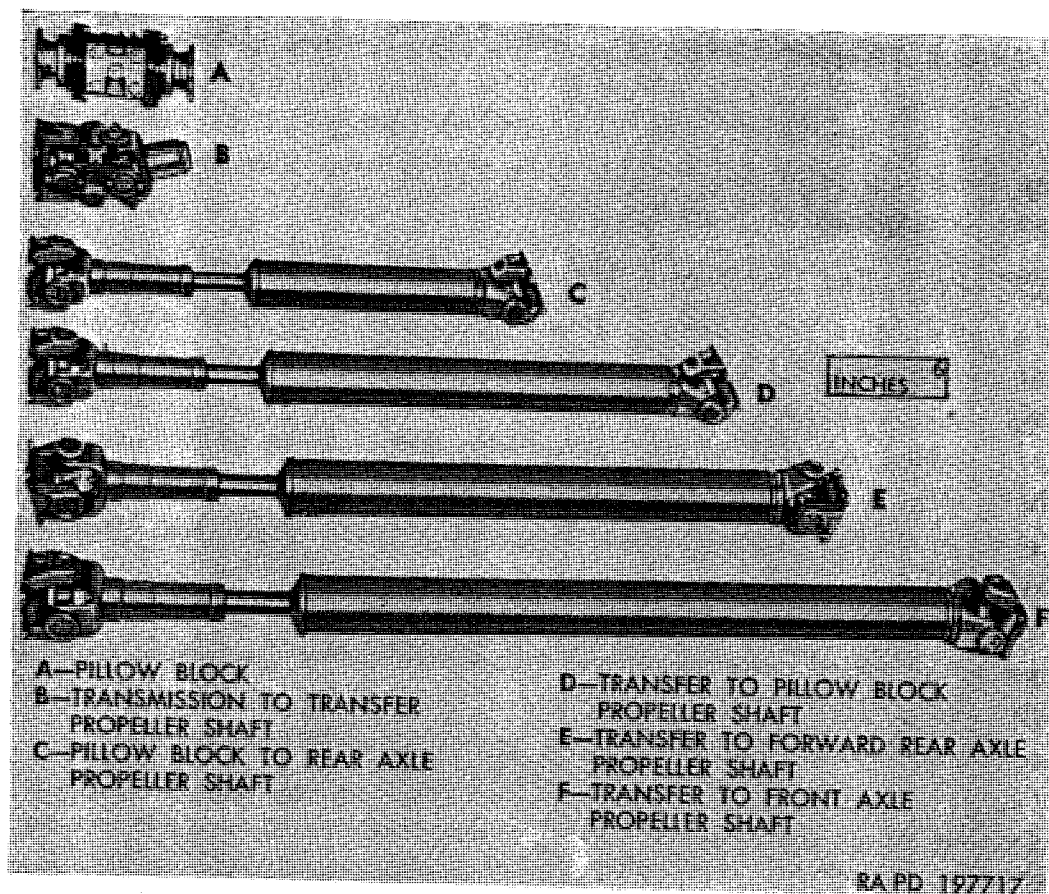

Figure 239. Pillow block and propeller shaft assemblies removed.
b. *Axle Propeller Shaft Removal*. Remove four bolts and nuts at each end of shaft attaching universal joint flange to drive or driven unit flange; then remove complete shaft assembly (C, D, E, or F, fig. 239).
a. General. The four axle propeller shaft assemblies (C, D, E, and F, fig. 239) are identical in construction except lengths of tubular shaft and stub shaft assemblies. Each shaft has a slip joint at one end to permit telescopic action of shaft during operation. One half of the slip joint is a splined solid stub shaft welded to tubular shaft. The slip joint sleeve yoke assembly (G) fits over the stub shaft splines, thus forming the slip joint. Universal joints should be repaired whenever excessive wear is indicated by looseness in bearing
- (1) *Cleaning.* Clean all parts thoroughly with dry-cleaning solvent or volatile mineral spirits. Upon installation, use new bearing gasket retainers (E) and bearing gaskets (D) on journal.
- (2) *Inspection.*
- (a) *Shaft assemblies.* The shaft assemblies with stub shaft and yoke are of different lengths (fig. 239), depending on location. Examine shaft assembly for bent condition. Each shaft is balanced and no attempt should be made to repair a shaft. If shaft is bent, or if yoke or splines are damaged, replace shaft.
- (b) *Universal joint flange yokes.* Inspect universal joint flange yokes (A) for damage. Replace yokes if damaged. Do not attempt to repair yokes.
- (c) *Slip joint sleeve yoke.* Thoroughly clean out interior of slip joint sleeve yoke assembly (G). Inspect yoke for dam-
a. Description. The propeller shaft assembly between transmission and transfer (B, fig. 239) consists of two universal joint assemblies bolted together to form a propeller shaft assembly. The sleeve yoke assembly (R) fits on splined output shaft of transmission to form a slip joint. The flange yoke (Q) bolts to a companion flange on transfer input shaft. Needle-type roller bearing assemblies are used at each universal joint. Universal joints should be repaired whenever excessive wear is indicated by looseness in bearings. A kit for repair of universal joints consists of one journal assembly, four bearing assemblies, four bearing caps (when used), two lubrication fittings, eight cap screws, and four lock straps; the journal assembly includes gaskets and retainers.